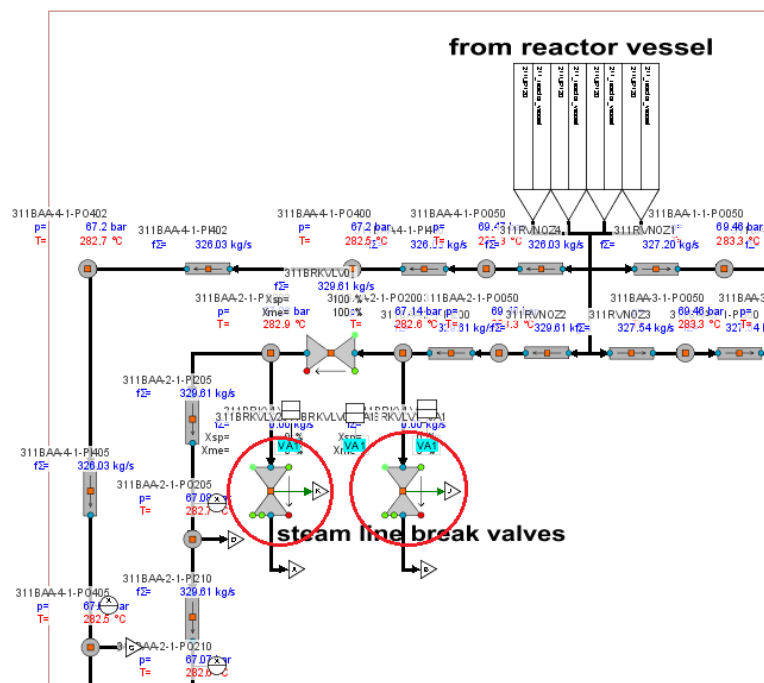

Figure 6. Steam line break valves in the "311_ste" diagram
- A ready-made break location is modeled in net "311_ste". Break valves from both the reactor side and the turbine side are connected to the containment drywell. An auxiliary valve in the steam line is closed simultaneously as the break valves open (see Figure 6).